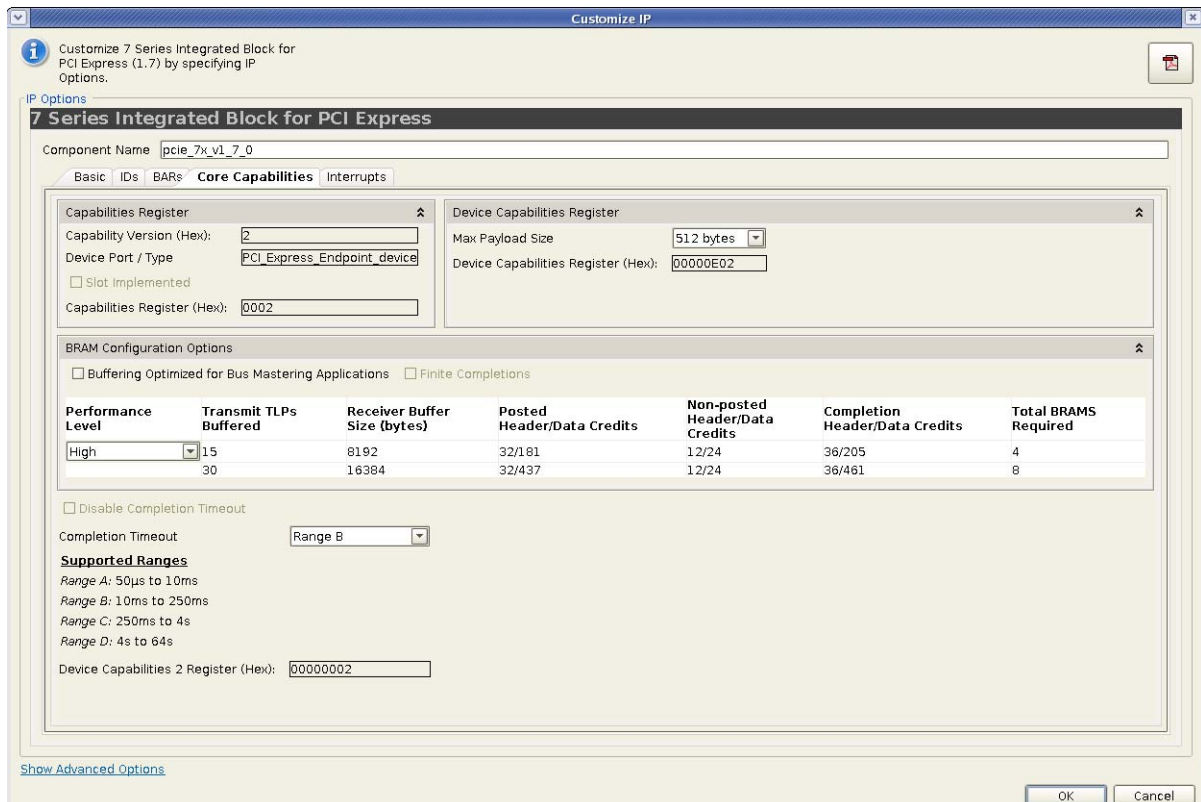

Figure 4-4: Core Capabilities Parameters
The Core Capabilities parameters shown in Figure 4-4 is used to customize the IP initial values, class code, and Cardbus CIS pointer information.
- **Attention Button Present:** Indicates the Attention Button is implemented. When set, indicates that an Attention Button for this slot is implemented on the chassis. This option is disabled when "Device_Port_Type" is not "Root Port of PCI Express Root Complex." This is enabled only when the Slot Implemented parameter in the Core Capabilities tab is selected (see Figure 4-4).
- **Attention Indicator Present:** Indicates the Attention Indicator is implemented. When set, indicates that an Attention Indicator for this slot is implemented on the chassis. This option is disabled when "Device_Port_Type" is not "Root Port of PCI Express Root Complex." This is enabled only when the Slot Implemented parameter in the Core Capabilities tab is selected (see Figure 4-4).
- **Power Controller Present:** Indicates the Power Controller is implemented. When set, indicates that a software programmable Power Controller is implemented for this slot. This option is disabled when "Device_Port_Type" is not "Root Port of PCI Express Root Complex." This is enabled only when the Slot Implemented parameter in the Core Capabilities tab is selected (see Figure 4-4).
- **Power Indicator Present:** Indicates the Power Indicator is implemented. When set, indicates that a Power Indicator is implemented on the chassis for this slot. This option is disabled when "Device_Port_Type" is not "Root Port of PCI Express Root Complex." This is enabled only when the Slot Implemented parameter in the Core Capabilities tab is selected (see Figure 4-4).
- **Hot-Plug Surprise:** When set, indicates that an adapter in this slot might be removed from the system without any prior notification. This option is disabled when "Device_Port_Type" is not "Root Port of PCI Express Root Complex." This is enabled only when the Slot Implemented parameter in the Core Capabilities tab is selected (see Figure 4-4).
- **Hot-Plug Capable:** When set, indicates that this slot is capable of supporting hot-plug operations. This option is disabled when "Device_Port_Type" is not "Root Port of PCI Express Root Complex." This is enabled only when the Slot Implemented parameter in the Core Capabilities tab is selected (see Figure 4-4).
Express Root Complex." This is enabled only when the Slot Implemented parameter in the Core Capabilities tab is selected (see Figure 4-4).
- **Electromechanical Interlock Present:** When set, indicates that an Electromechanical Interlock is implemented on the chassis for this slot. This option is disabled when "Device_Port_Type" is not "Root Port of PCI Express Root Complex." This is enabled only when the Slot Implemented parameter in the Core Capabilities tab is selected (see Figure 4-4).
- **No Command Completed Support:** When set, indicates that the slot does not generate software notification when an issue command is completed by the Hot-Plug Controller. This option is disabled when "Device_Port_Type" is not "Root Port of PCI Express Root Complex." This is enabled only when the Slot Implemented parameter in the Core Capabilities tab is selected (see Figure 4-4).
- **Slot Power Limit Value:** Specifies the Upper Limit on power supplied to the slot, in combination with Slot Power Limit Scale value. This option is disabled when "Device_Port_Type" is not "Root Port of PCI Express Root Complex." This is enabled only when the Slot Implemented parameter in the Core Capabilities tab is selected (see Figure 4-4).
- **Slot Power Limit Scale:** Specifies the scale used for the Slot Power Limit value. This option is disabled when "Device_Port_Type" is not "Root Port of PCI Express Root Complex." This is enabled only when the Slot Implemented parameter in the Core Capabilities tab is selected (see Figure 4-4).
- **Physical Slot Number:** Specifies the Physical Slot Number attached to this port. This field must be hardware initialized to a value that assigns a slot number that is unique within the chassis, regardless of form factor associated with the slot. This option is disabled when "Device_Port_Type" is not "Root Port of PCI Express Root Complex." This is enabled only when the Slot Implemented parameter in the Core Capabilities tab is selected (see Figure 4-4).